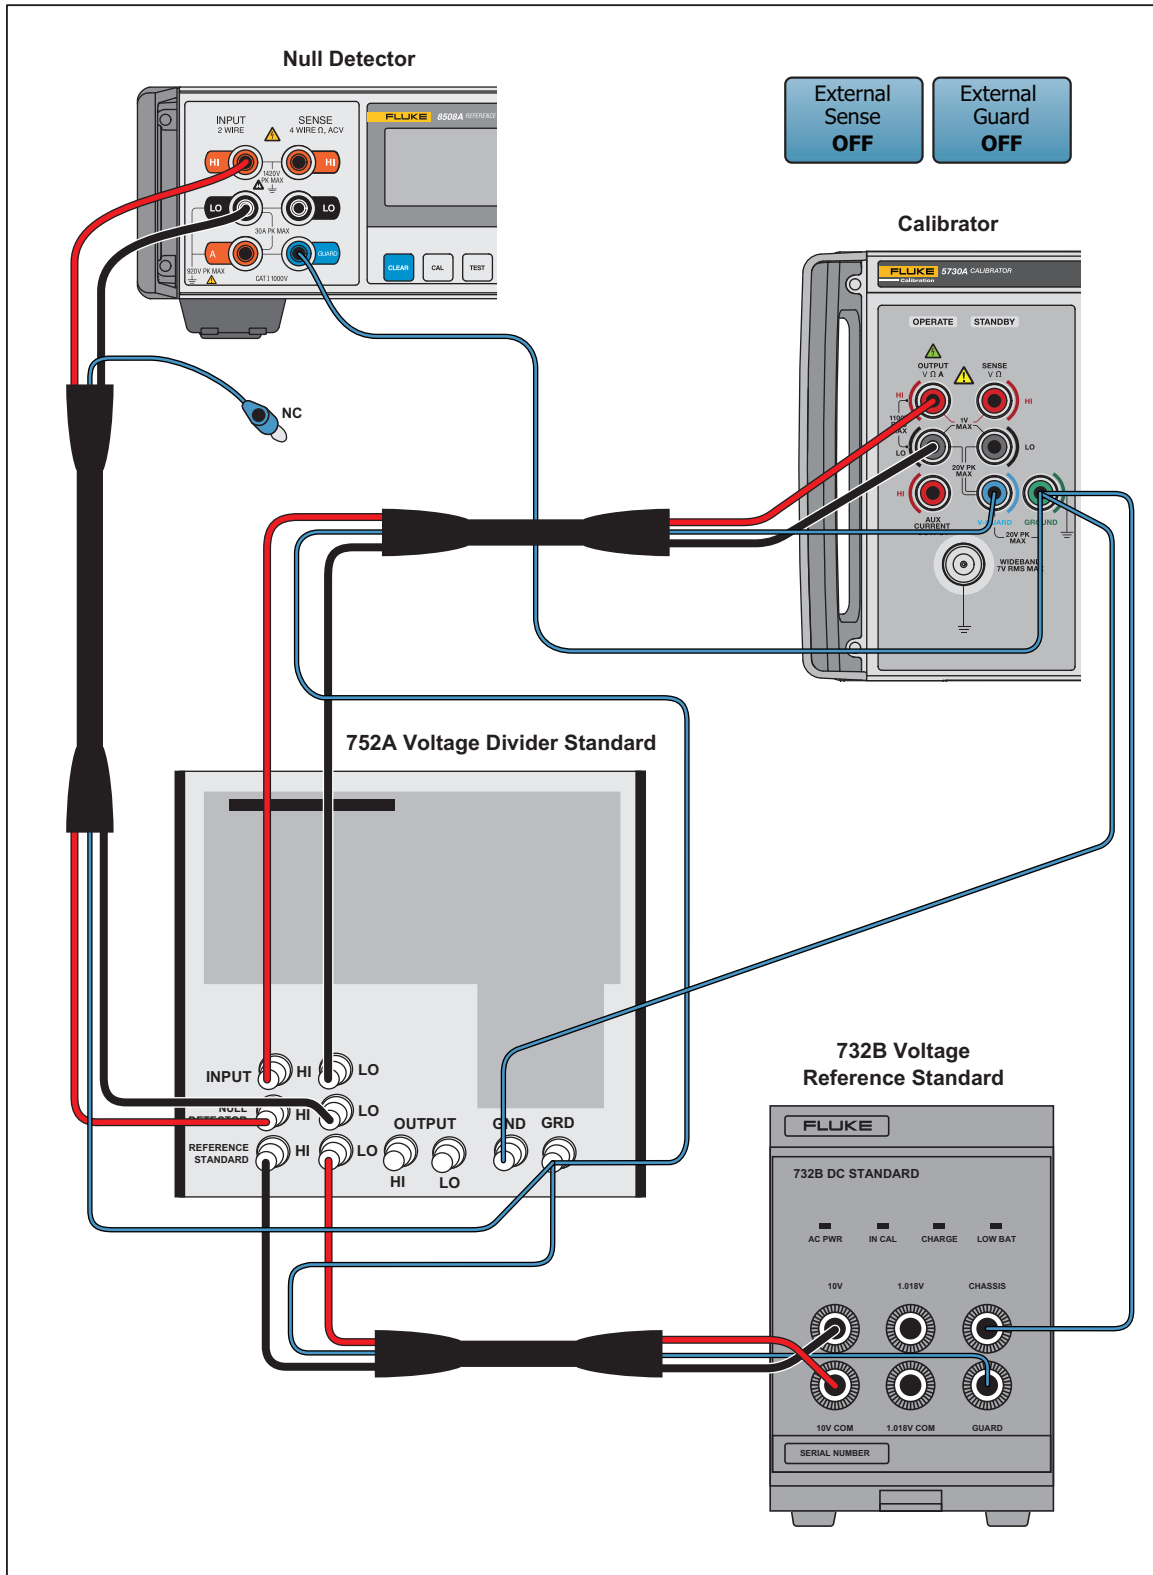

Figure 7-6. 220 V DC Range Calibration Connections
5. Connect the 732B, 8508A (Null Detector), and 752B in a 10:1 configuration, as shown in Figure 7-6.